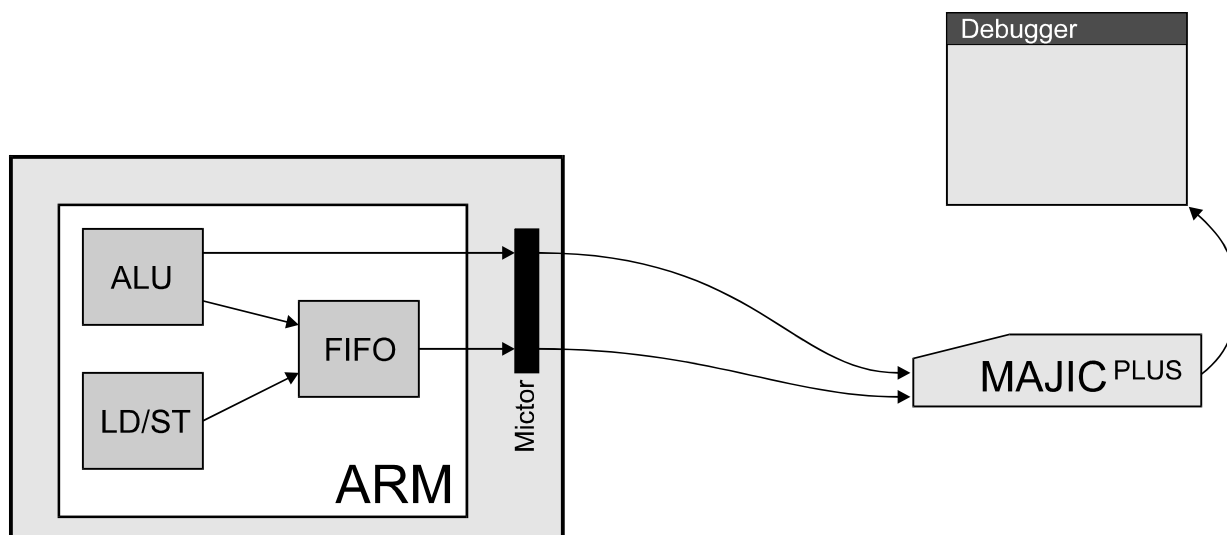

Figure 1: ETM trace data flow, from the CPU pipeline and load/store unit, through the MAJICPLUS probe, to the debugger.
During program execution, the Embedded Trace Macrocell emits a record of instructions that have been executed, and optionally data transfer addresses and even data values. This information is captured in a dedicated trace memory in the MAJICPLUS probe, and is subsequently uploaded to the debugger for display. The flow of ETM trace data is shown in Figure 1.
- How many “Trace Data Packet” (TRACEPKT) bits are connected from the FIFO to the Mictor connector in figure 1? ARM allows for 4-bit, 8-bit, or 16-bit mode. More trace data pins allow trace data to come off chip faster to avoid FIFO overruns, but costs extra pins.
- Are the ETM signals connected directly to dedicated output pins, as shown in figure 1? Or are the ETM signals multiplexed with other signals, and if so, how do you select ETM mode for those pins?